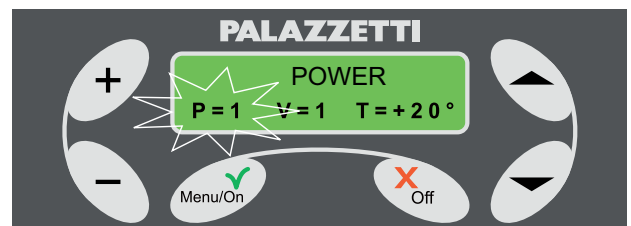

Fig. 1.7.2
- 2) press Menu/On to access it; the initials of the work parameters appear on the second line of the display, Fig. 1.7.2: